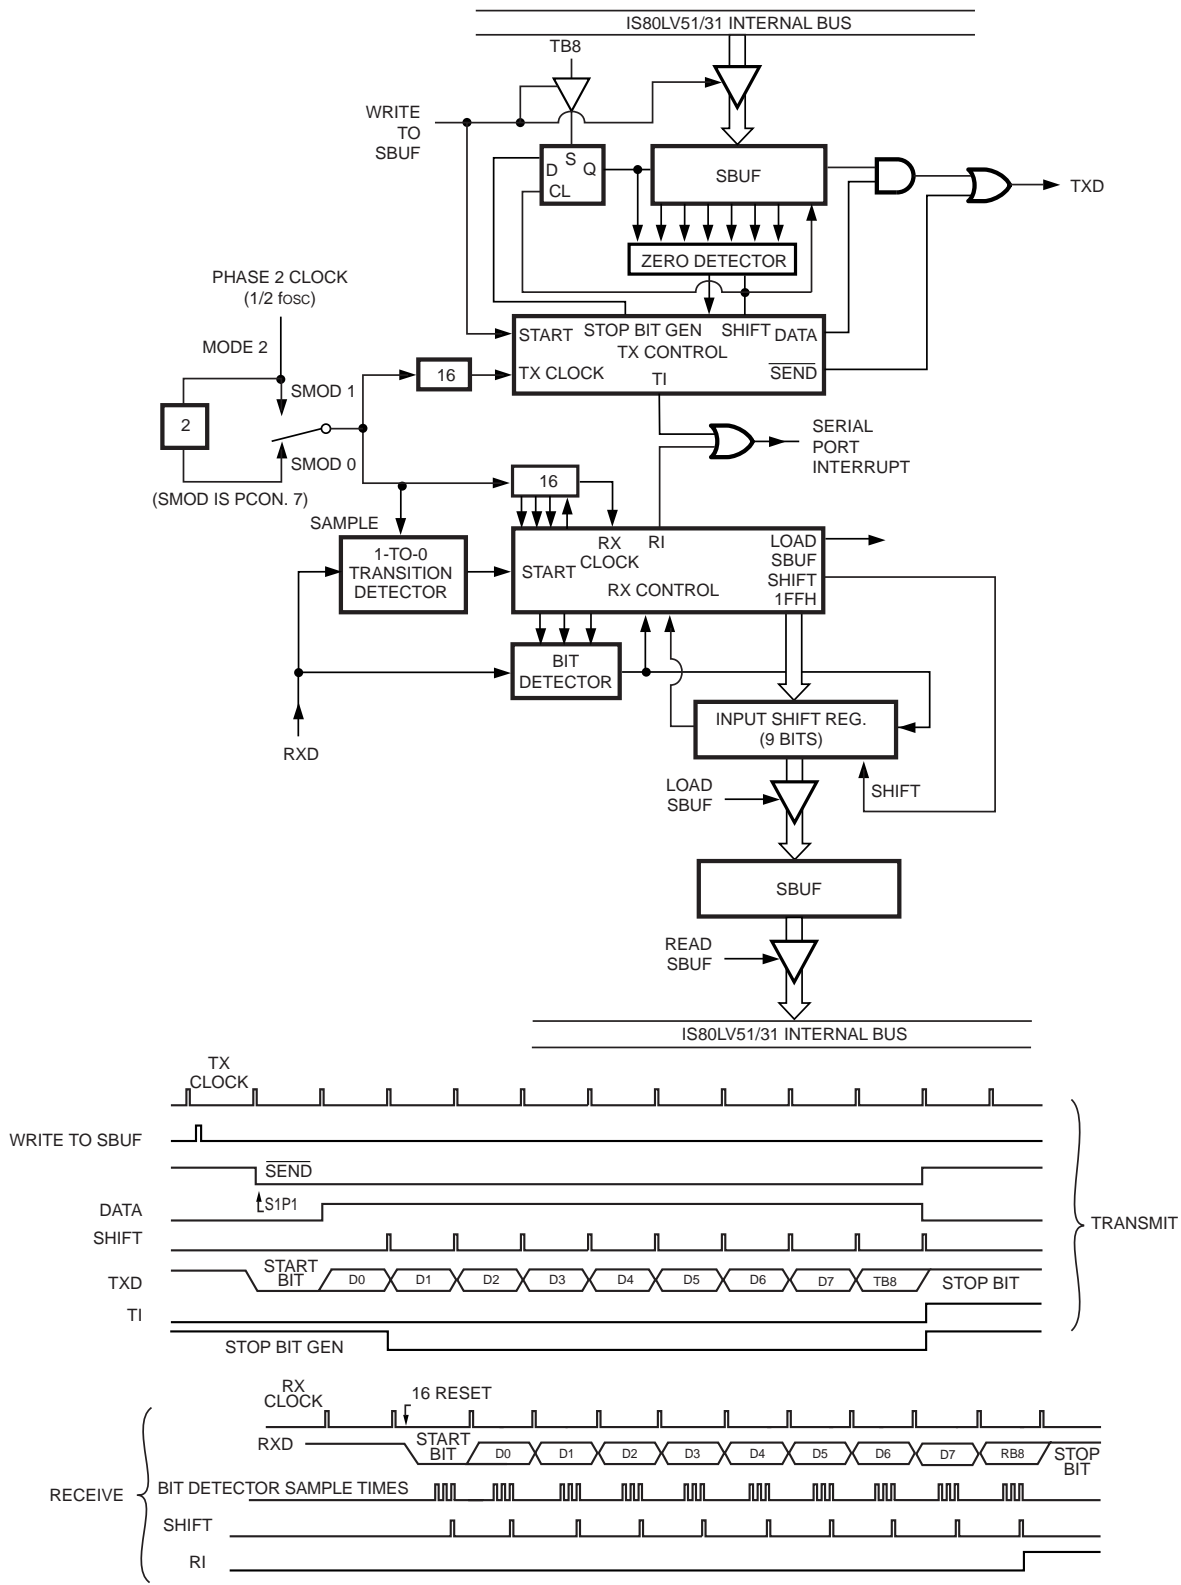

Figure 14. Serial Port Mode 2
Eleven bits are transmitted (through TXD) or received (through RXD): a start bit (0), eight data bits (LSB first), a programmable ninth data bit, and a stop bit (1). On transmit, the ninth data bit (TB8 in SCON) can be assigned the value of 0 or 1. Or, for example, the parity bit (P, in the PSW) can be moved into TB8. On receive, the ninth data bit goes into RB8 in Special Function Register SCON, while the stop bit is ignored. The baud rate is programmable to either 1/32 or 1/64 the oscillator frequency (see Figure 14).
Figures 14 and 15 show a functional diagram of the serial port in Modes 2 and 3. The receive portion is exactly the same as in Mode 1. The transmit portion differs from Mode 1 only in the ninth bit of the transmit shift register.